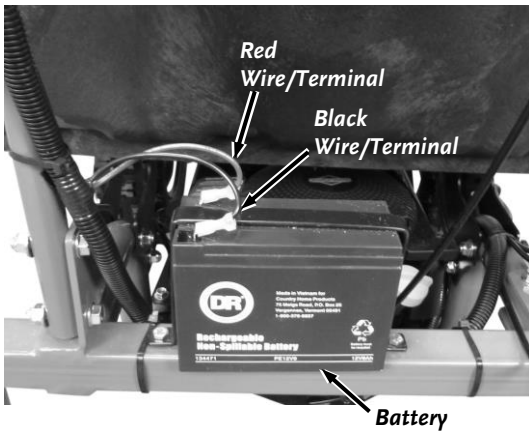

Figure 33
1. Detach the two Battery wires from your Battery (**Figure 33**).